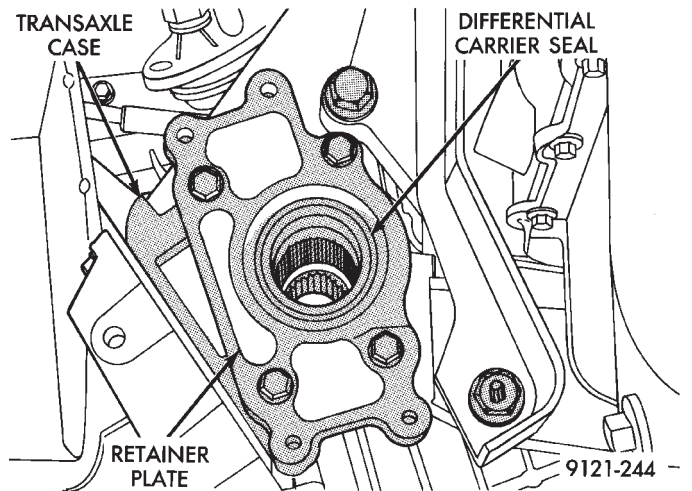

Fig. 7 Transaxle Differential Carrier Seal
- (2) Use a pry bar to remove seal from retainer plate (Fig. 7). Be careful not to damage seal journal when removing seal.